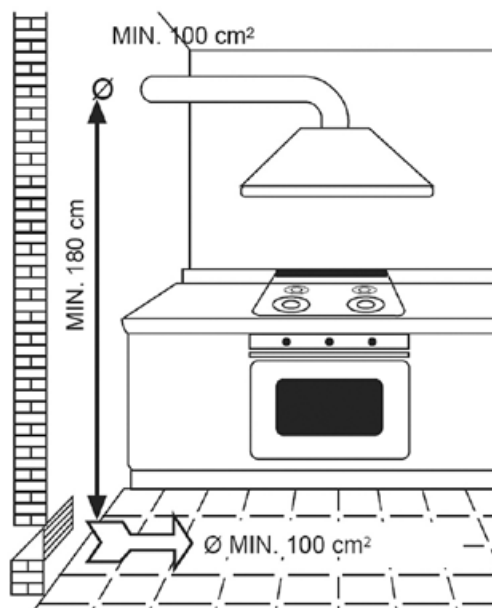

Fig. 5
- Install the appliance in a properly ventilated room only! For the required ventilation dimensions see Fig. 5.